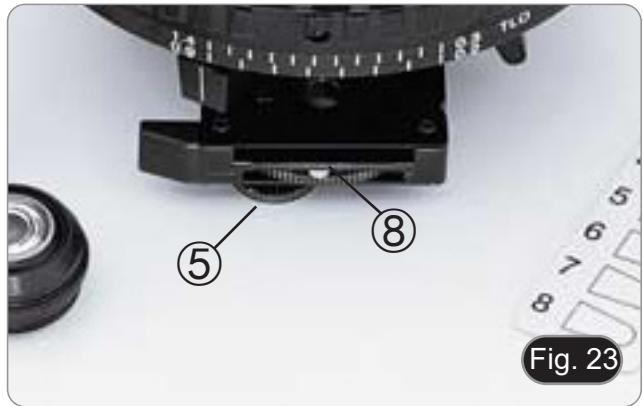

Fig. 23
5. Turn the polarizer knob ⑧ under the condenser to achieve maximum darkening of the eyepieces, and then tighten the polarizer locking screw ⑤. (Fig. 23)